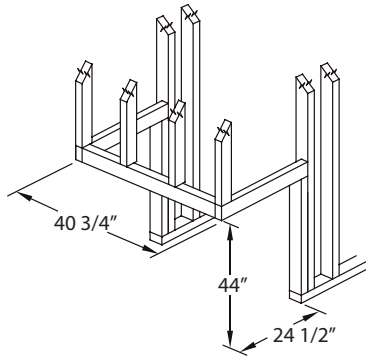

Figure 2. Framing dimensions.
- 1). Frame in the enclosure for the unit with framing materials. The framed opening for the assembled fireplace is 40 3/4" wide, x 44" high x 24 1/2" deep, see Figure 2.